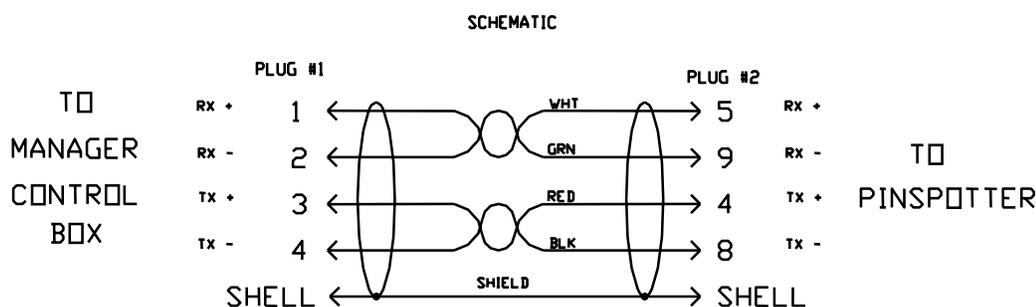

Figure 4, Home Run Cable Wiring Diagram
- If the MCU will not communicate with any chassis, then the home run cable is probably bad. Check the continuity of the wires in the home run cable using the drawing shown in Figure 4. Try another daisy chain or home run cable if available.